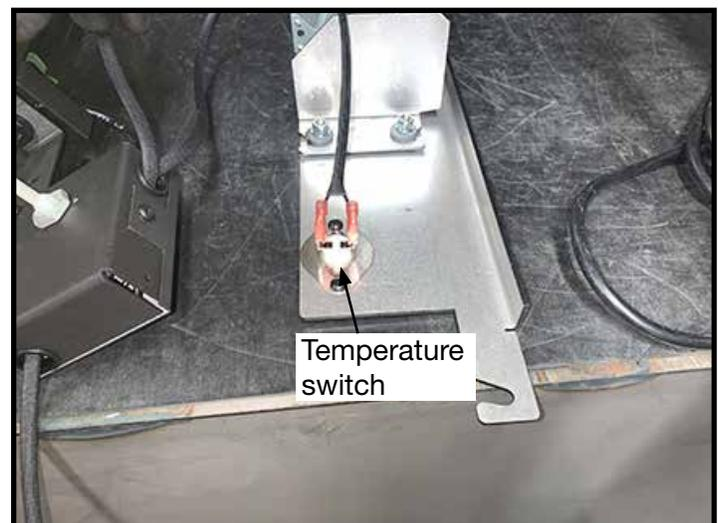

Figure 12: Thermal switch connection.jpg
5. Attach the two long leads to the Temperature Switch (Figure 12) located on the Right Side Blower Mounting Plate. Pass the Mounting Plate with Blower through the opening on the right side of the insert. Then hook the lower slot over the lower bolt, swinging the Blower/Plate into position, engaging the hook fully over the upper bolt. Tighten the bolts